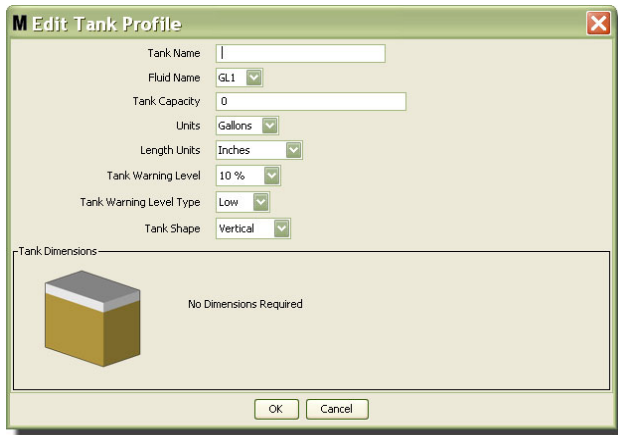

FIG. 73
3. The Edit Tank Profile screen shown in FIG. 73 displays.